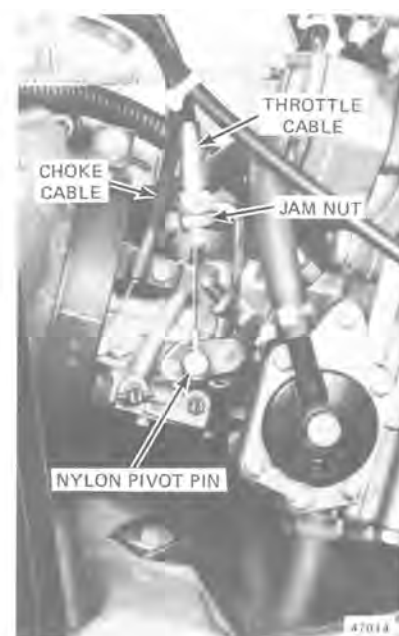

Figure 6-1
- a. Remove throttle cable using the following procedure: Depress thumb throttle lever. Hold throttle in open position. Slip end of throttle cable through nylon pivot pin. Remove jam nut from carburetor bracket and pull out throttle cable. See Figure 6-1.